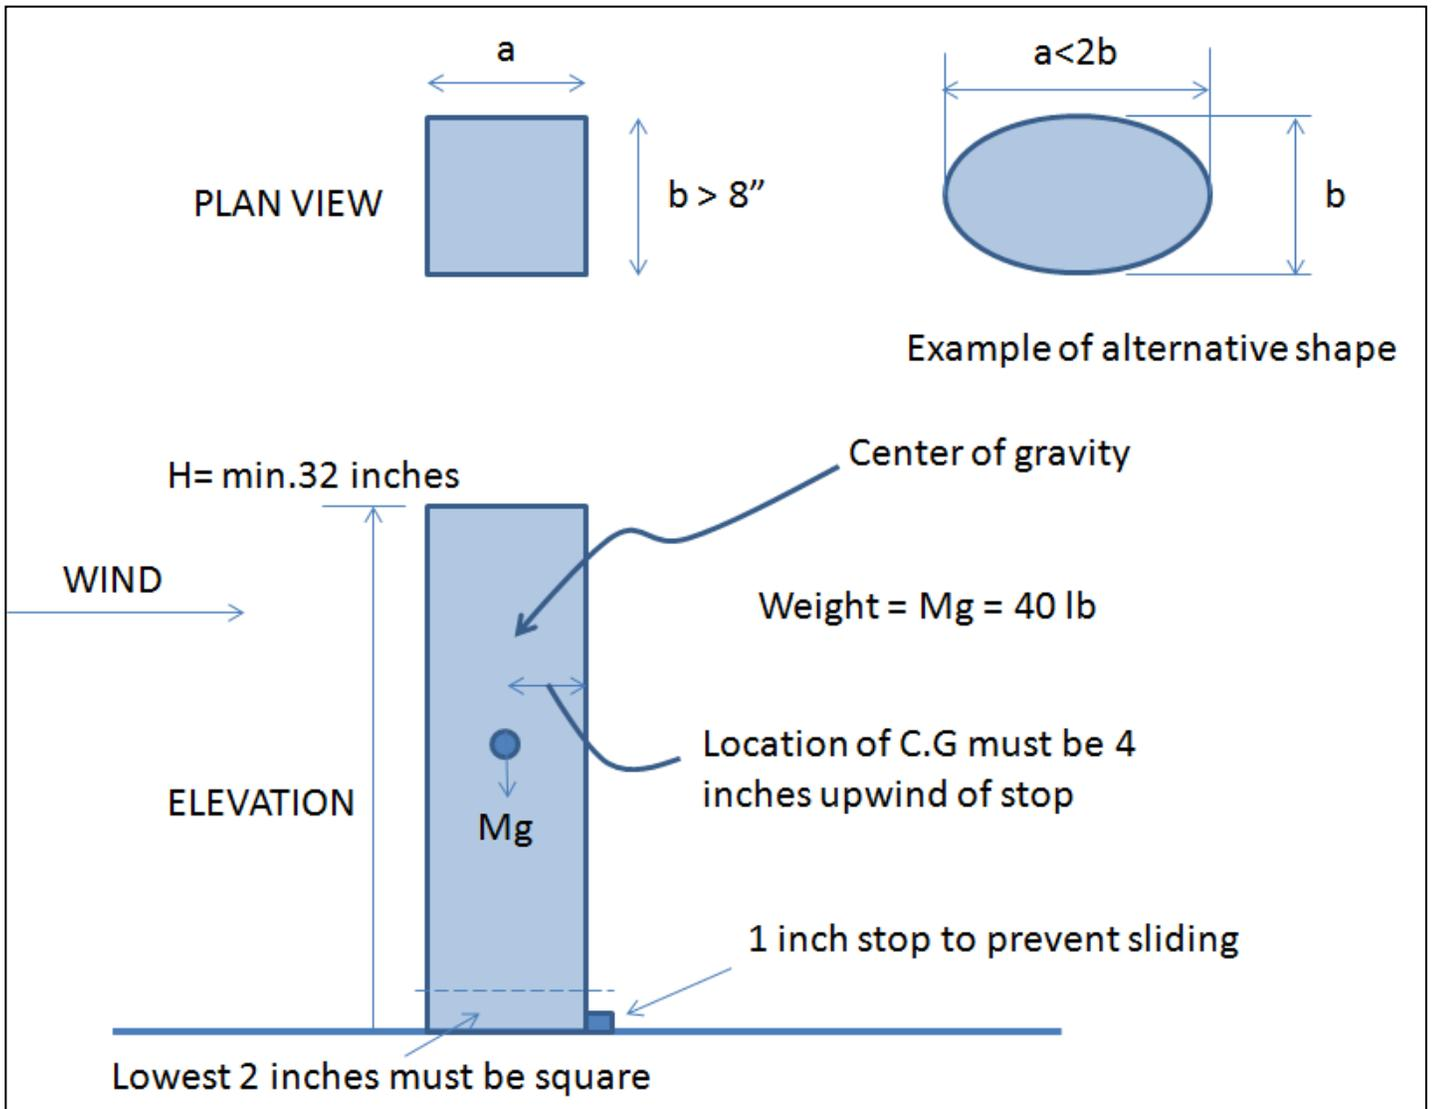

Figure 2: Schematic diagram of the building model, showing dimensions of side and plan views.
- 2.3: The building model will be a minimum of 32 inches high (i.e. total height), which includes a gold painted wooden base (8x8x2 inches) which will be provided for each team; see Figure 2.